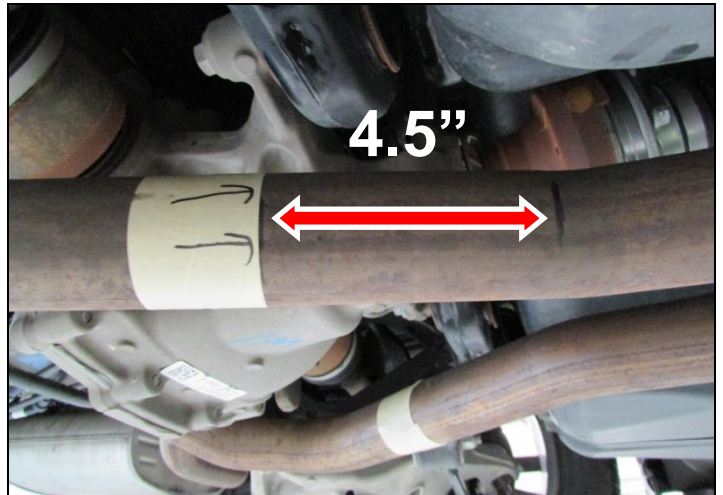

Figure 3
5. With a permanent marker, locate the tangent line – (This is where the bend ends and the straight section of the pipe begins) of the right side OE mid pipe and mark a straight line. Now mark another straight line exactly 4.5" after your tangent mark – (This is 4.5" in the direction of the rear of the vehicle). We suggest using masking tape to wrap around the OE mid pipe to ensure a straight cut. Draw arrows to ensure you cut at the correct side of the marking tape. **DOUBLE CHECK AND MEASURE TWICE BEFORE CUTTING.** See Figure 3.